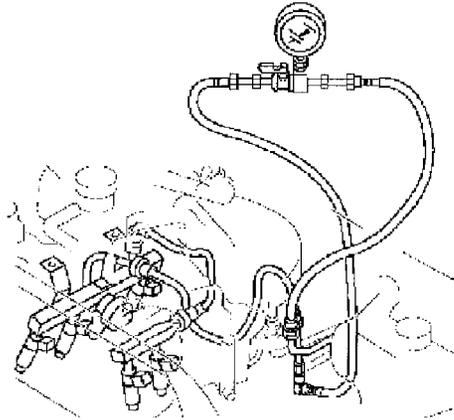

Figure MA014-17
6. Connect a fuel pressure gauge (Snap-on MT3370A or equivalent or use or use a Vantage® graphing meter or MODIS™ Lab Scope Plug-in to read pressure through 0-100 psi transducer and suitable adapter) (Figure MA014-17).